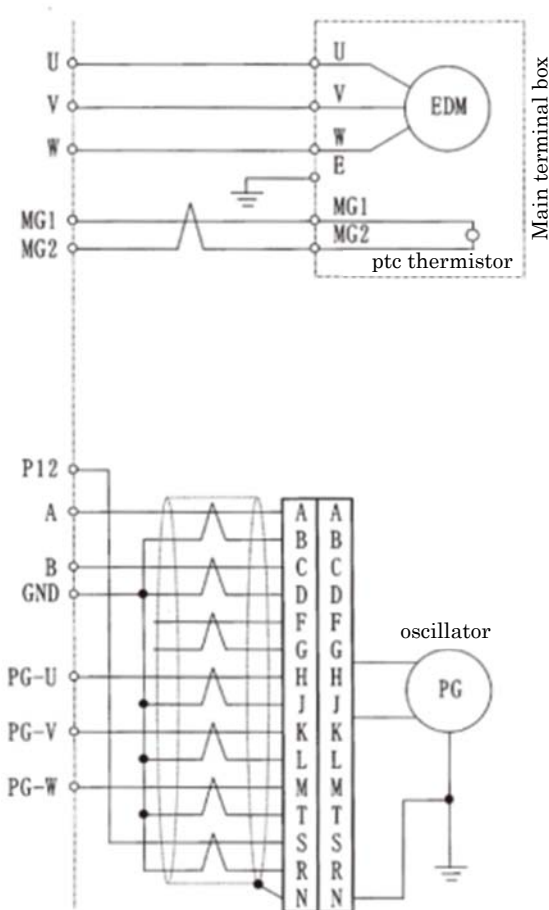
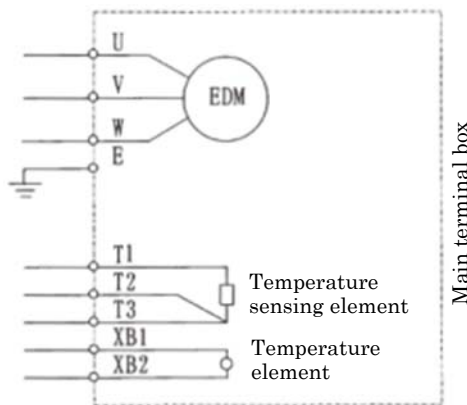

Fig. 5
Fig. 6
Fig. 5 shows the standard connection diagram. In case that the temperature sensing element (pt100Ω) and temperature element (bimetal type) are provided, all these terminals are housed in the main terminal box and their terminal symbols are as shown in Fig. 6.
- (1) Terminals must be connected correctly in accordance with connection diagrams (Fig. 5, Fig. 6). Due attention should be paid to the following points.